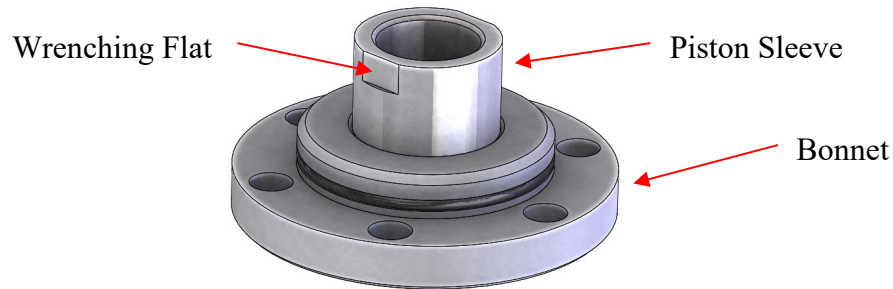

Figure 23: Piston Sleeve and Bonnet (Shown Upside-Down)
12. Using the flats on the piston sleeve, unscrew it carefully. See Figure 23.